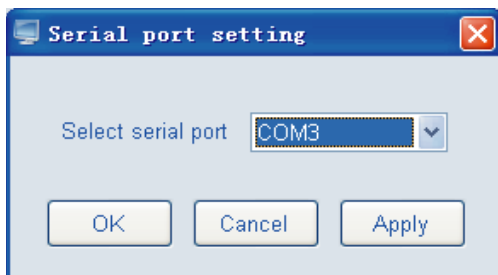
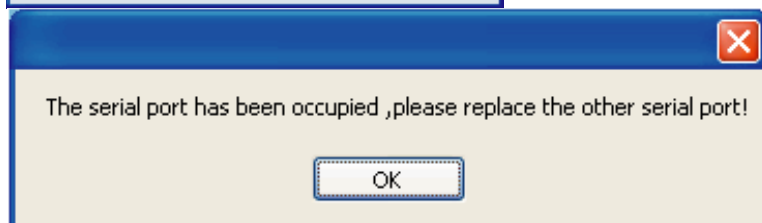
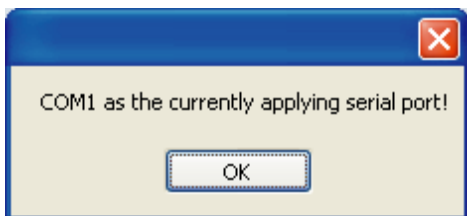

Fig.4-51
Fig.4-52
Fig.4-53
① Click “Serial port set”, window as Fig. 4-51 will pop up—— modify or select the serial port in computer. The available serial port source is captured by software, and saved at the optional list for user to select. Provided that the selected serial port has been occupied, once click “Apply” or “Enter”, a message box as Fig. 4-52 will pop up; if the serial port as is the current applying port, once click “Apply” or “Enter”, a message box as Fig. 4-53 will pop up.